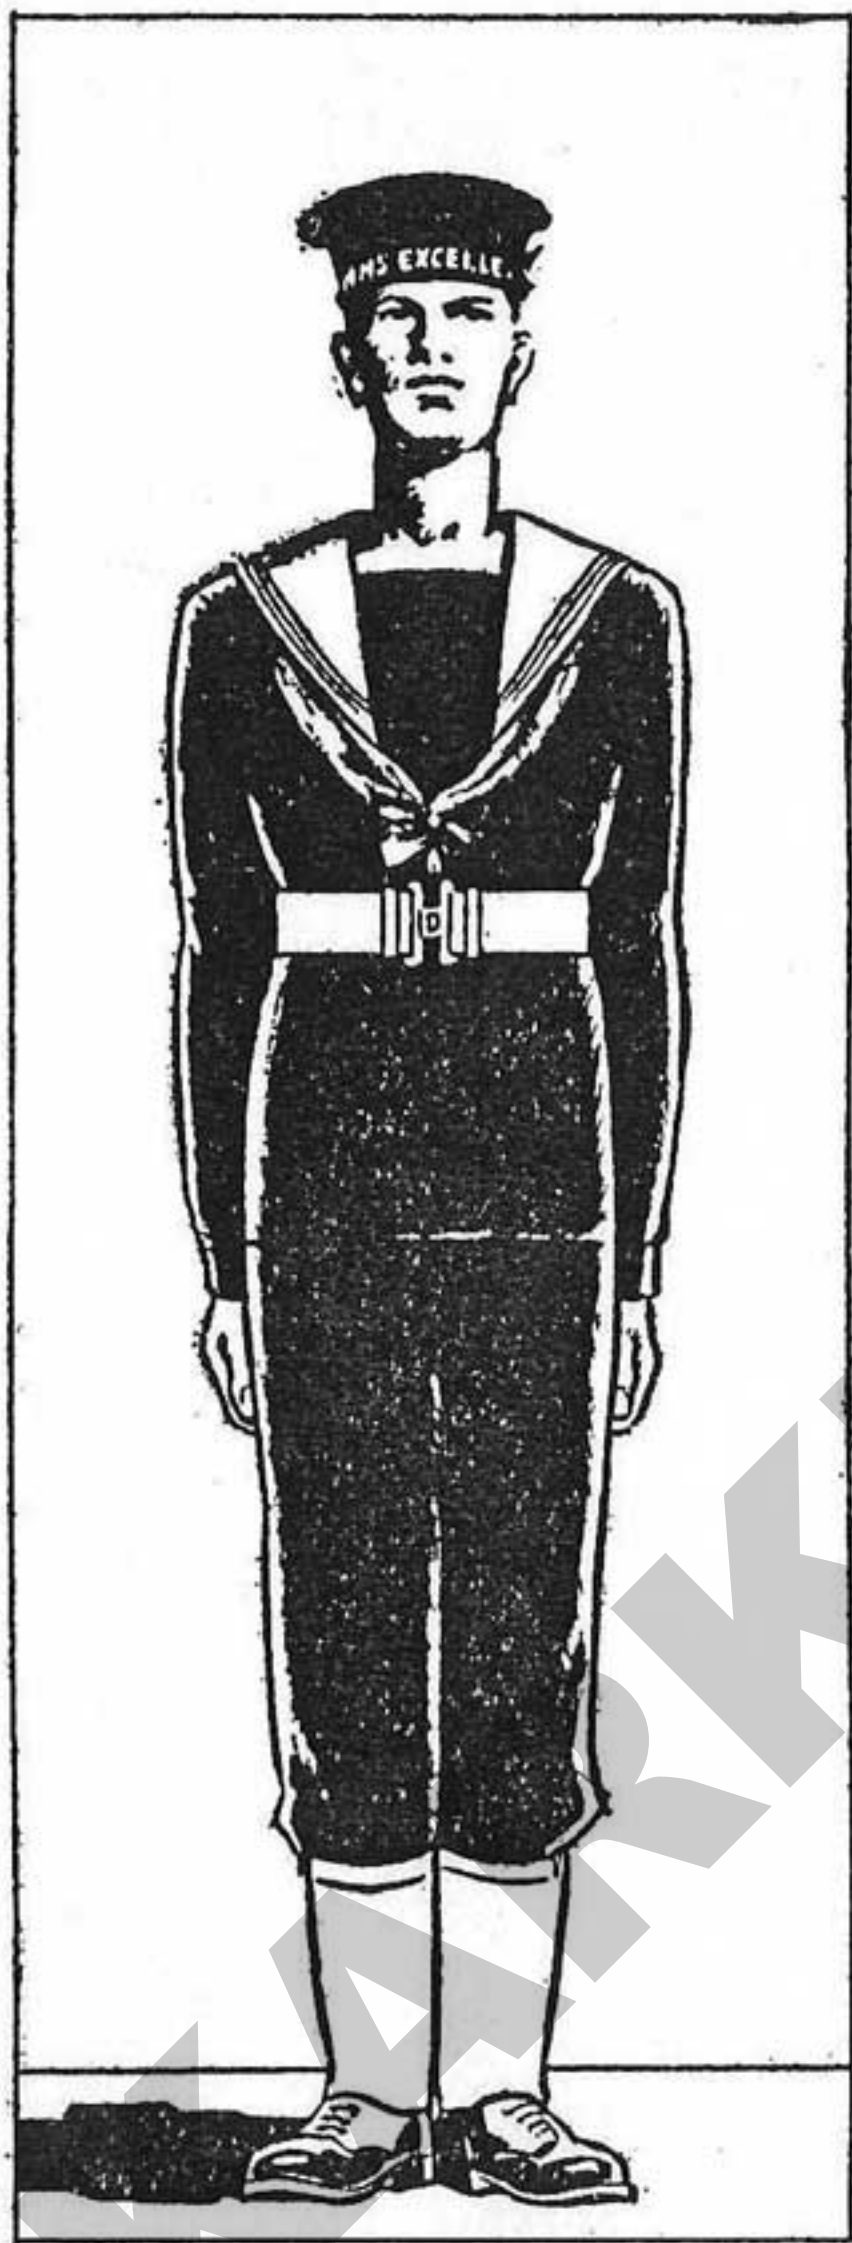

Fig. 1. Waist belt
8. This is the foundation of the equipment and must be fitted snugly if the remainder is to be worn comfortably and neatly. When fastened, the buckles in rear and the buckle in front must be central. Adjustments may be made by inserting the metal prongs into the canvas sockets on the inside of the belt. The runners (on some belts these are made of metal ; on others, of webbing) must be close up to the front buckle. (See Figs. 1 and 2.)